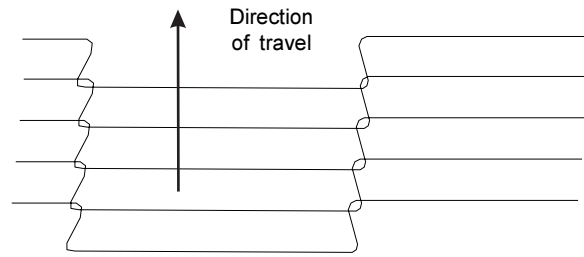

Figure 2-21 - Conveyor Link Orientation
- The conveyor belt links must be oriented as shown in Figure 2-21.